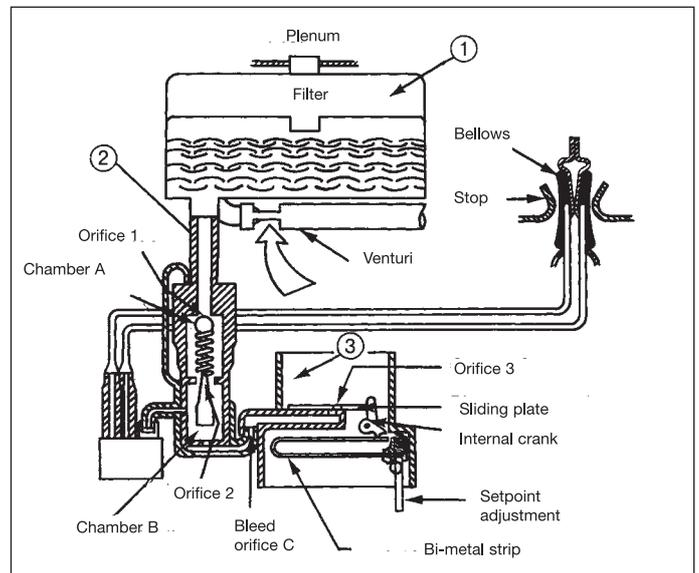

Fig. 2 - Control schematic
- an air bleed filter ① (1) mounted on the plenum
- a flow controller ② (2) to control the supply air flow up to the maximum allowed for the unit as the primary air supply pressure varies between its minimum and 750 Pa. In Figure 2 the size of the orifice 1 changes as the pressure at the controller inlet changes. Changes in pressure within chamber A are proportional to the changes of pressure within the plenum. The size of orifice 2, set manually by rotating a serrated, calibrated sleeve determines the maximum air flow. .
- thermostat ③ (Fig 2) keeps the room temperature constant by controlling the bleed rate across the variable orifice 3. The sliding plate is moved by an internal crank linked to a bi-metal strip. The bi-metal strip is constantly exposed to the room air flow by means of a venturi which creates a depression within the thermostat. The control lever enables room the temperature to be set at any point between 18 and 28°C. The positioning of the controller on the diffuser gives much more precise control over the room temperature than is possible with wall mounted thermostats which may be unduly influenced by local sources of heat or draughts.